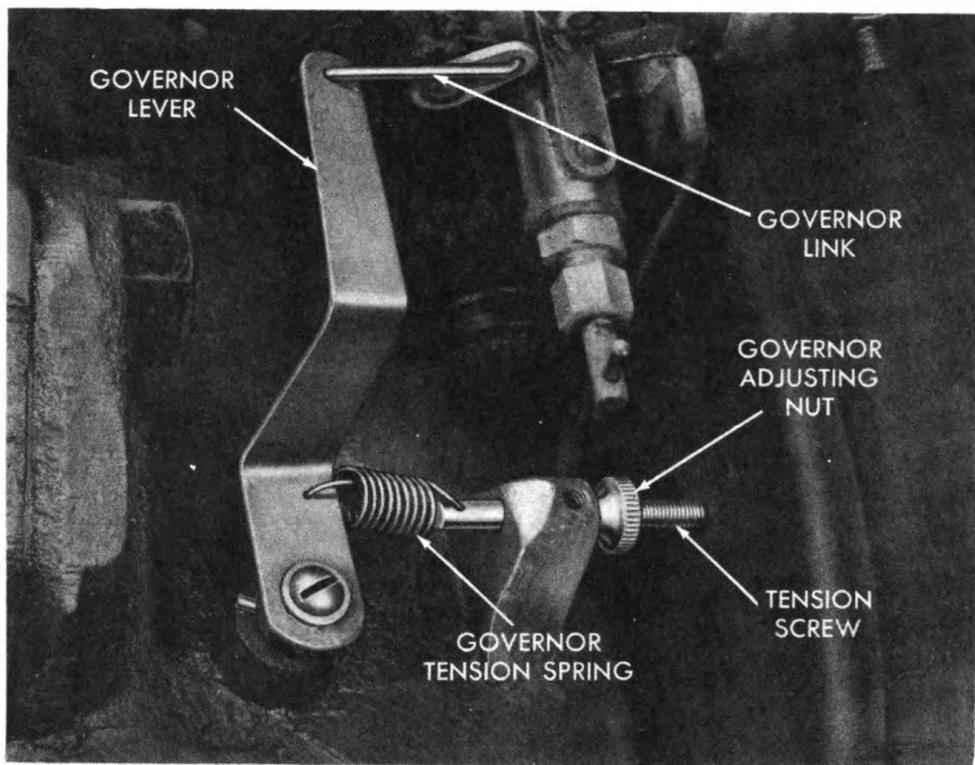

Figure 11—Governor Adjusting Nut and Tension Screw
c. **Governor.**—The governor is enclosed within the engine crank-case and is controlled by linkage attached to an adjusting nut and tension screw (figure 11) located adjacent to the carburetor and behind the needle valve. The adjusting nut controls the action of the governor, which in turn controls the speed of the engine. To increase engine speed, turn adjusting nut to the right (clockwise). The speed of the engine should be such that the pump will operate at 100 to 120 revolutions per minute.
c. **Setting Engine Governor.**—Count the strokes per minute of one pump plunger. If less than 100 strokes are recorded, governor should be advanced, permitting greater engine speed. To advance governor, turn governor adjusting nut (figure 11) to the right (clockwise). If more than 120 strokes per minute are recorded, governor should be retarded to reduce engine speed. To retard governor, turn governor adjusting nut to the left (counterclockwise).